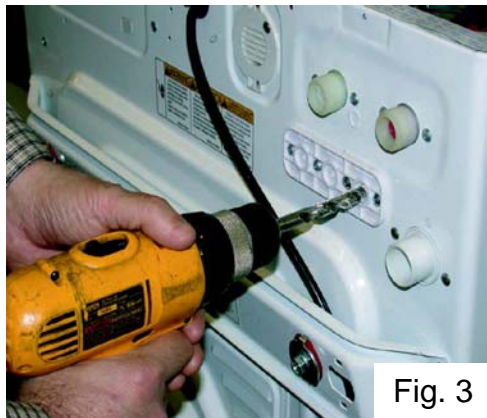

Fig. 3
6. Drill a 1/8" pilot hole through the corresponding number of chemical-tube entry holes on the back of the machine (Fig 3).
7. Using an appropriate bit, enlarge the holes drilled in step 6, to allow the chemical supply tubing to easily enter the machine (Fig 3)..